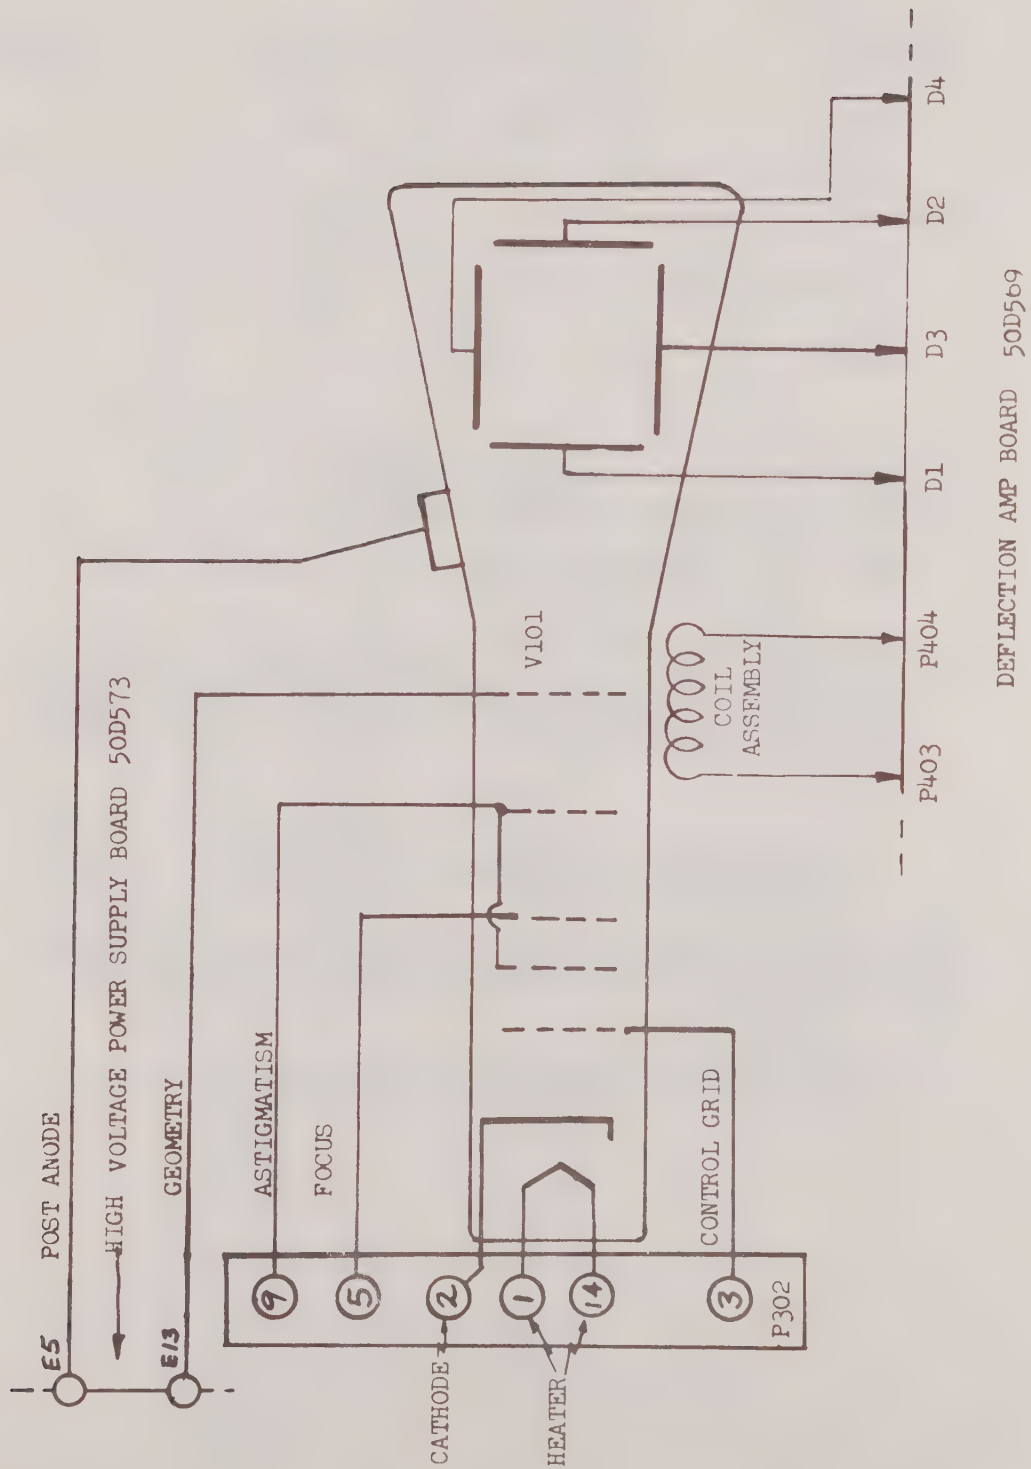

Figure 4-5 Schematic of the CRT Circuit
- h. Listed in Chart 4-1 are various CRT Voltage potentials (see Figure 4-5, Schematic of the CRT Circuit).